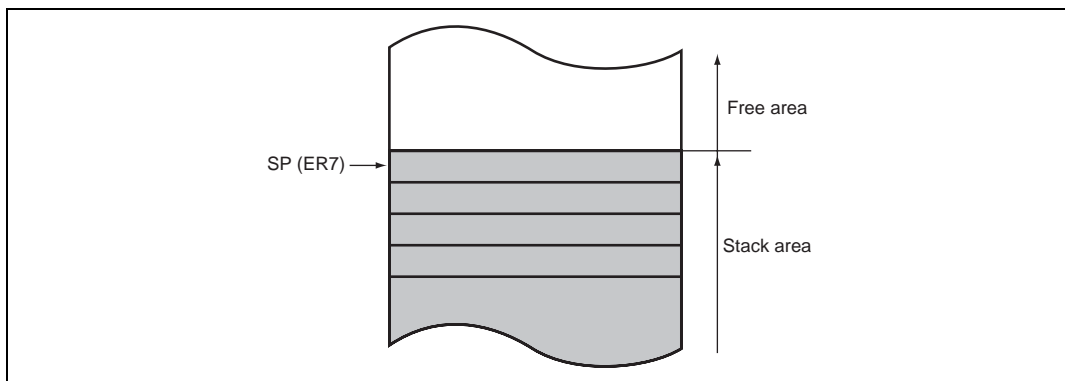

Figure 2.8 Stack Status
General register ER7 has the function of stack pointer (SP) in addition to its general-register function, and is used implicitly in exception handling and subroutine calls. Figure 2.8 shows the stack.